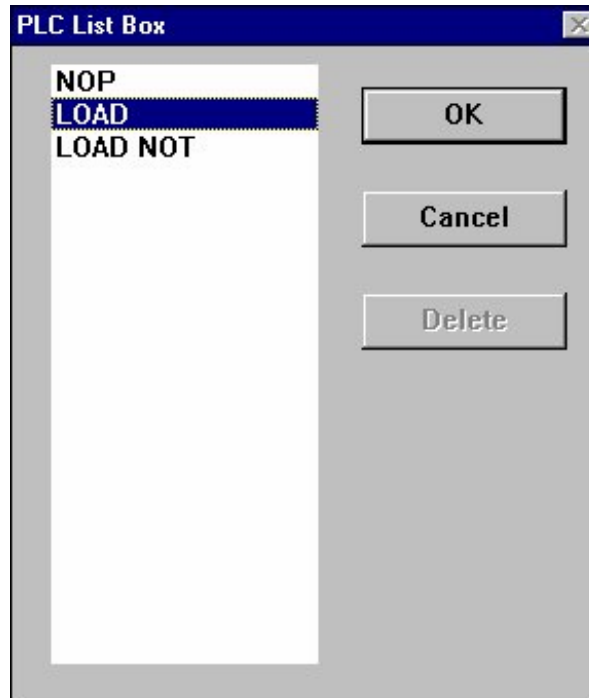

Figure 5-2: PLC List Box
1. Click on the top left hot point and the PLC List Box appears (Figure 5-2).
1. Click a hot spot in a line. The PLC instruction list box appears (Figure 5-2).
1. Click a hot spot within the logic block. The PLC instruction list box appears (Figure 5-2).